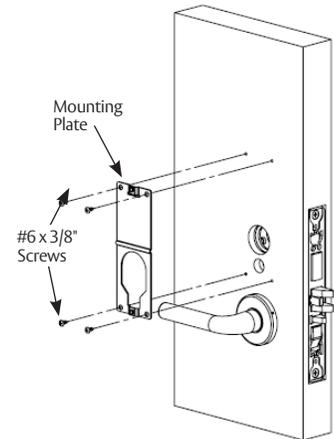

Figure 27
1. Screw indicator mounting plate to door with four (4) #6 x 3/8" sheet metal screws. (Figure 27)